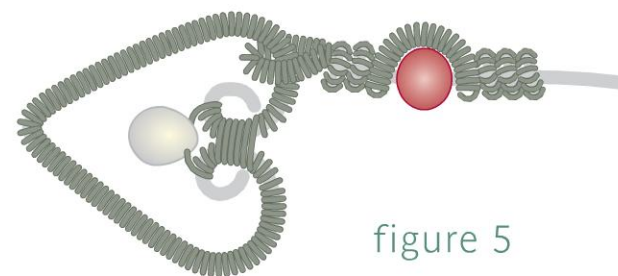

figure 5
- 1 5** Slide a 6mm garnet onto the uncoiled section of the 20-gauge wire. If necessary for length, coil more of the 26-gauge wire tail around the uncoiled section of the 20-gauge wire, then with the coiled end of the 20-gauge wire, pull the wire down the side of the garnet. Wrap the coiled wire three times around the uncoiled 20-gauge wire. Trim the 20-gauge coiled wire tail (Figure 5).